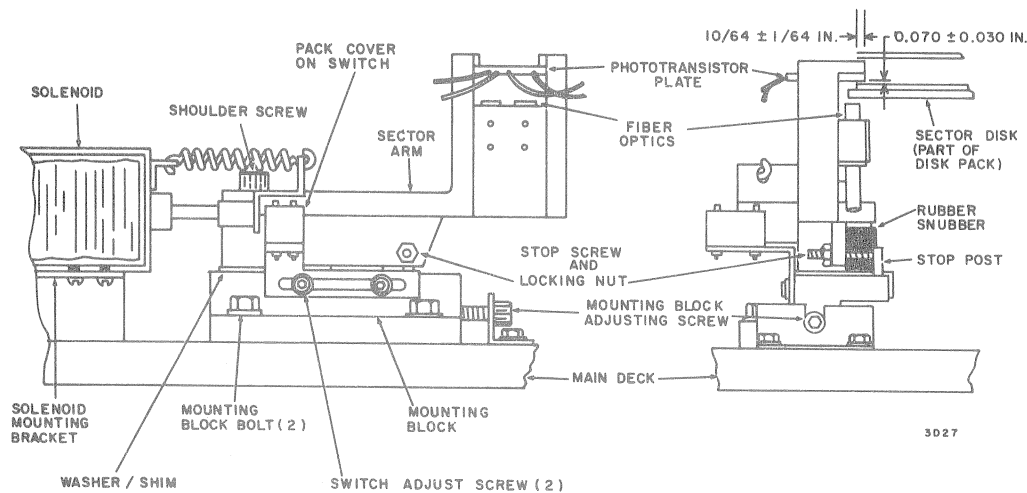

Figure 6-10. Sector/Presector Radial Adjustment
7. Using a plastic feeler gage, check the 0.070 ± 0.030 inch clearance (Figure 6-10).
8. If the requirement is not met, remove the shoulder screw (Figure 6-10) and add shims (p/n according to Illustrated Parts List) between the top of the mounting block and the washer.
11. Using a 6-inch scale, check the $10/64 \pm 1/64$ inch clearance (Figure 6-10).
14. Move the sector/presector photocell toward the disk pack until the stop post is encountered (Figure 6-10). At this position the solenoid armature should be bottomed out. If this requirement is not met, loosen the screws in the solenoid mounting bracket and reposition the solenoid.
15. Position the sector arm against the stop post. At this position the pack cover on switch should be actuated by the sector arm (Figure 6-10). The sector arm must not touch the body of the switch. If this condition is not met, loosen the two screws securing the switch mounting bracket and reposition the switch.
33. Select one of the heads. Loosen the two bolts securing the sector/presector photocell mounting block to the disk drive main deck (Figure 6-10). Turn the mounting block adjusting screw under the solenoid arm clockwise to decrease or counterclockwise to increase the period. Stop adjusting when the period of the selected head has been changed by the amount and in the direction determined in step 32. Tighten the mounting block bolts and recheck the adjustment.